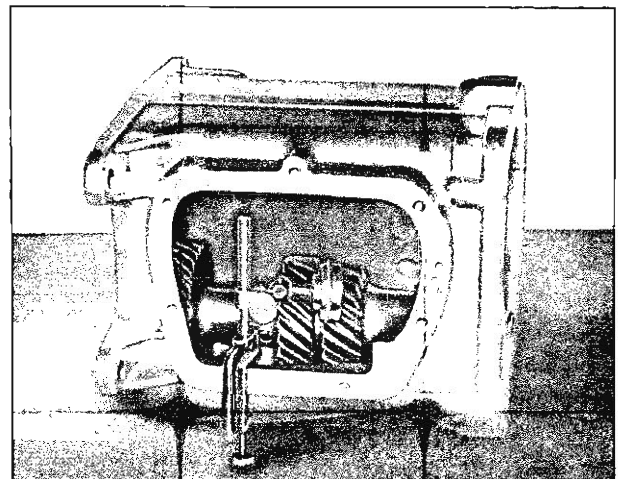

Fig. 22M—Checking Countergear End Play
6. Attach a dial indicator as shown in Figure 22M and check end play of the countergear. If end play is greater than .025" new thrust washers must be installed.